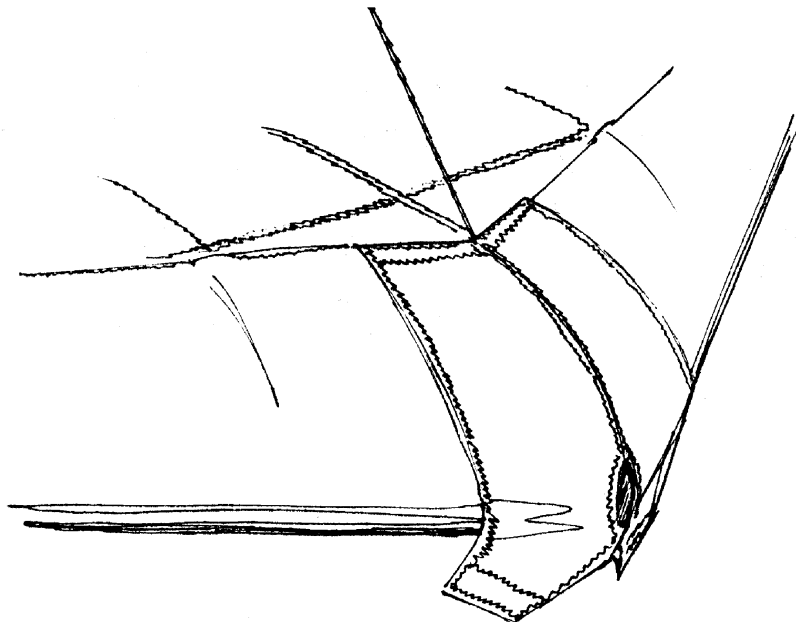

Fig. 29
2.2.11. Fit the nose cone over the front of the keel and attach the velcro at the top rear end of the nose cone (Fig. 29).